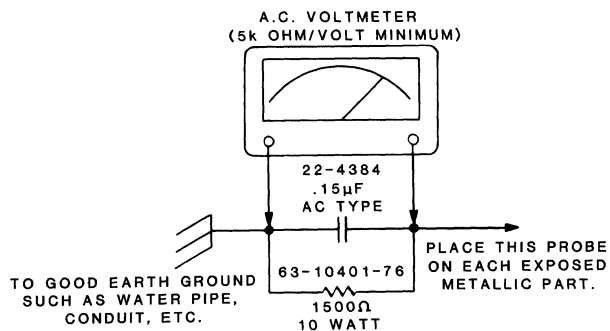

Figure 4-1
1. Connect the test circuit as shown in Figure 4-1.